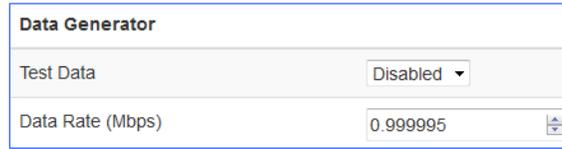

Figure 102: Data Generator, Data Rate Selection
- Data rate in Mbps – Typing a number in this field sets the data rate in Mbps, as shown in Figure 102